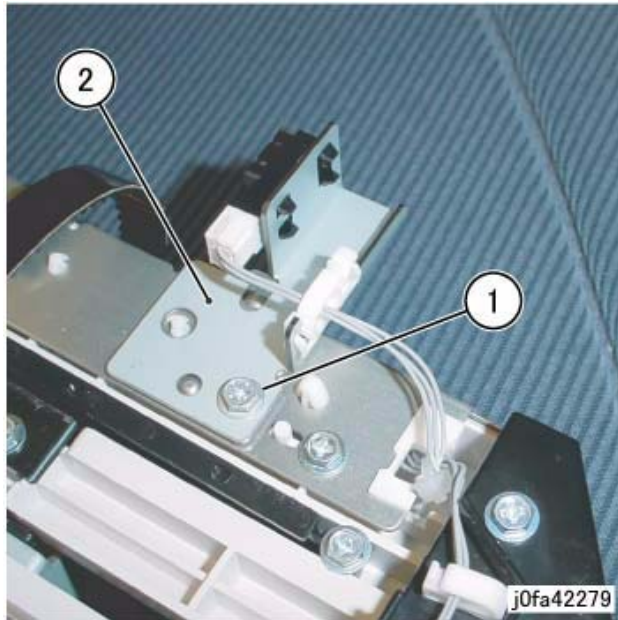

Figure 1 Moving the Eject Home Sensor Assembly (j0fa42279)
5. Move the Eject Home Sensor Assembly (Figure 1):